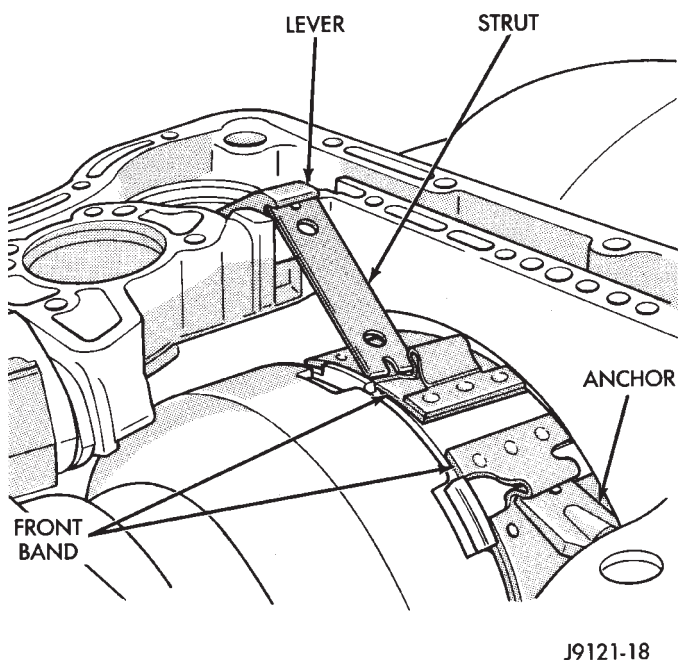

Fig. 106 Front Band Linkage
(16) Loosen front band adjusting screw until band is completely loose.
(17) Remove front band strut and anchor (Fig. 106).